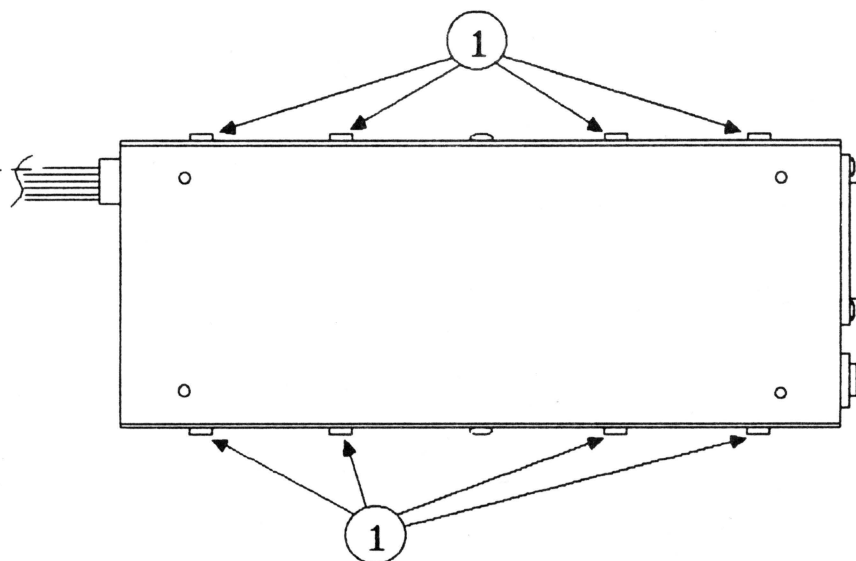

Figure 3
- g. Remove the eight screws (four on each side) that hold the bottom plate on (Figure 3, #1).